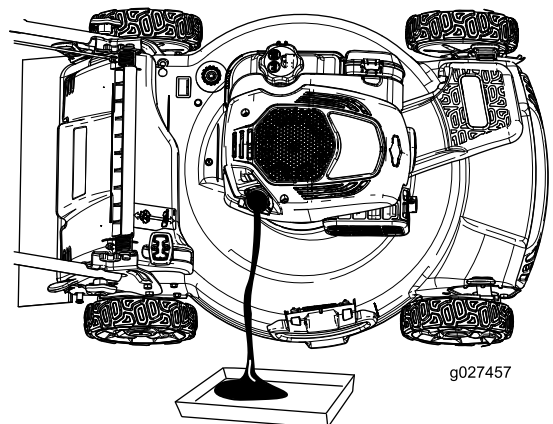

Figure 22
4. Tip the machine onto its side (so that the air filter is up) to drain the used oil from the oil-fill tube (Figure 22).